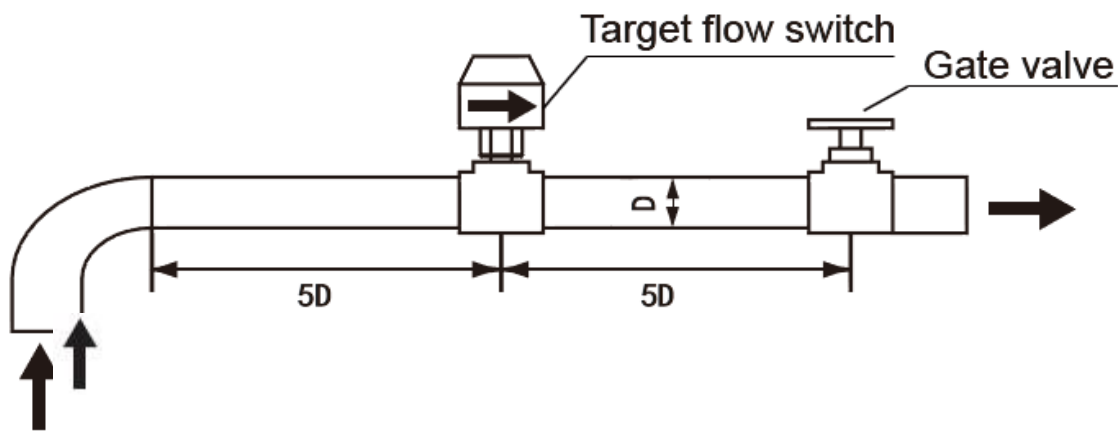

Fig.3-6
3.5.3. Water flow switch must be installed on a section of straight-line pipeline, and its both ends must be supplied with straight-line pipes whose length is at least 5 times diameter of the pipe. In the meanwhile, the fluid flowing direction in the pipeline must be consistent with the direction of arrow on the switch. The connection terminal should be located where wiring connection can be easily done. (Fig.3-6).